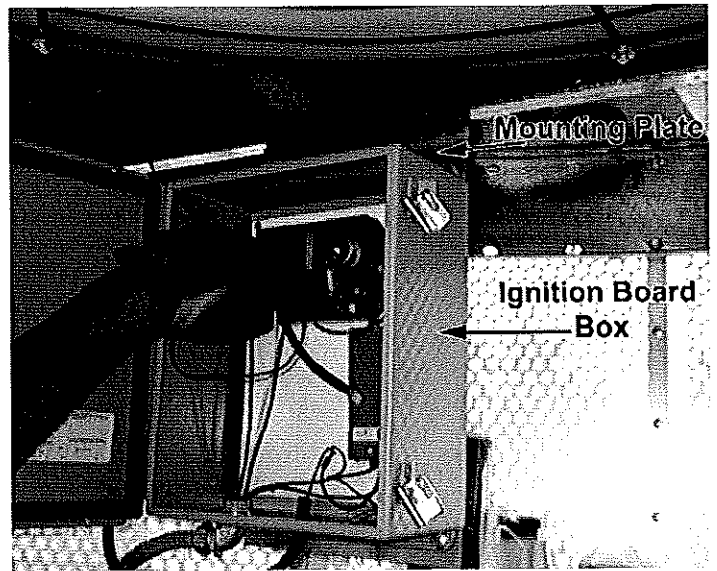

Figure 30
- There is a length of 3/4" flexible conduit connected to the Ignition Board Box, which is placed in the Base Section of the dryer during shipment. The Ignition Board Box is to be mounted on a special plate located in the bottom of Section #3 just under the Heat Floor. The mount plate is bolted to the side of (1) of the Floor Braces. See Figure 30